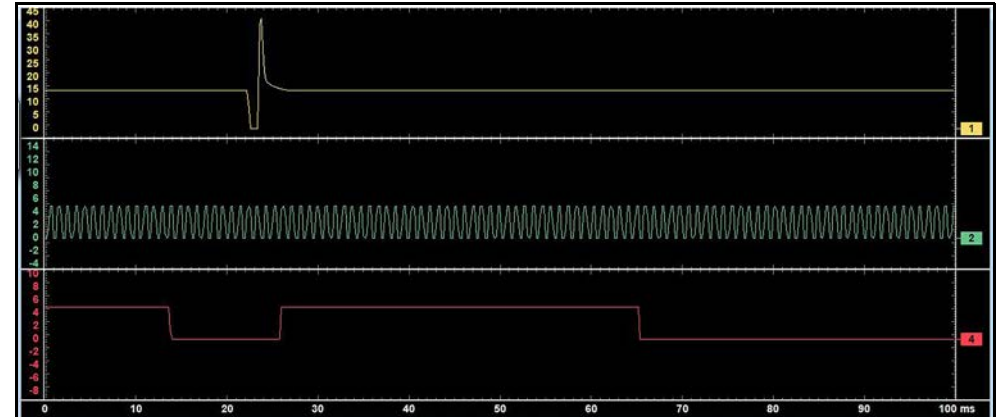

Figure 9-18 Sample 3 Windows display
- **3 windows**—shows three traces, one below another, on the same screen (*Figure 9-18*).